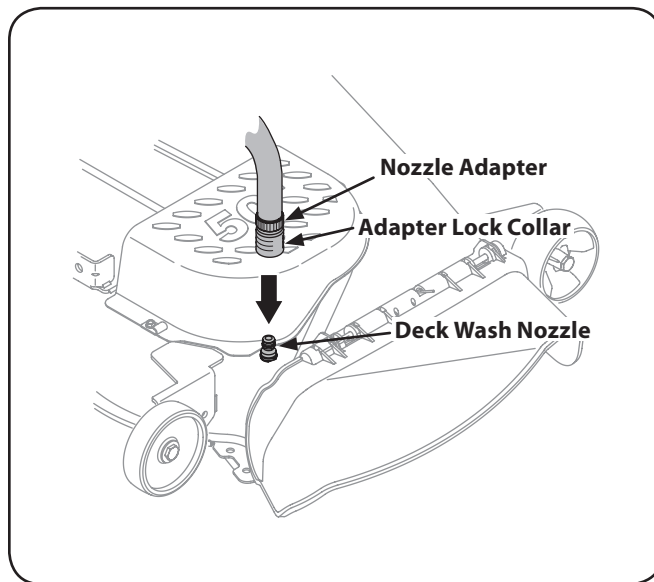

Figure 6-2
3. Attach the hose coupler to the water port on the left of your deck surface. See Fig. 6-2.